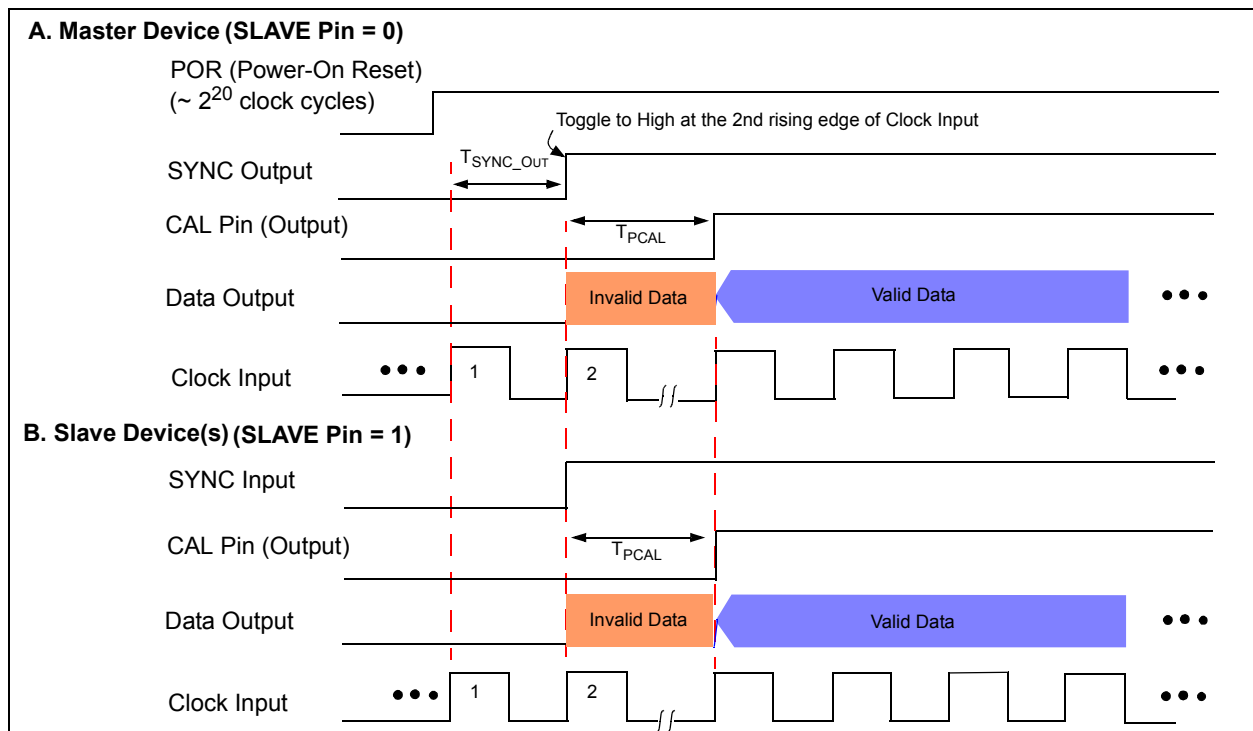
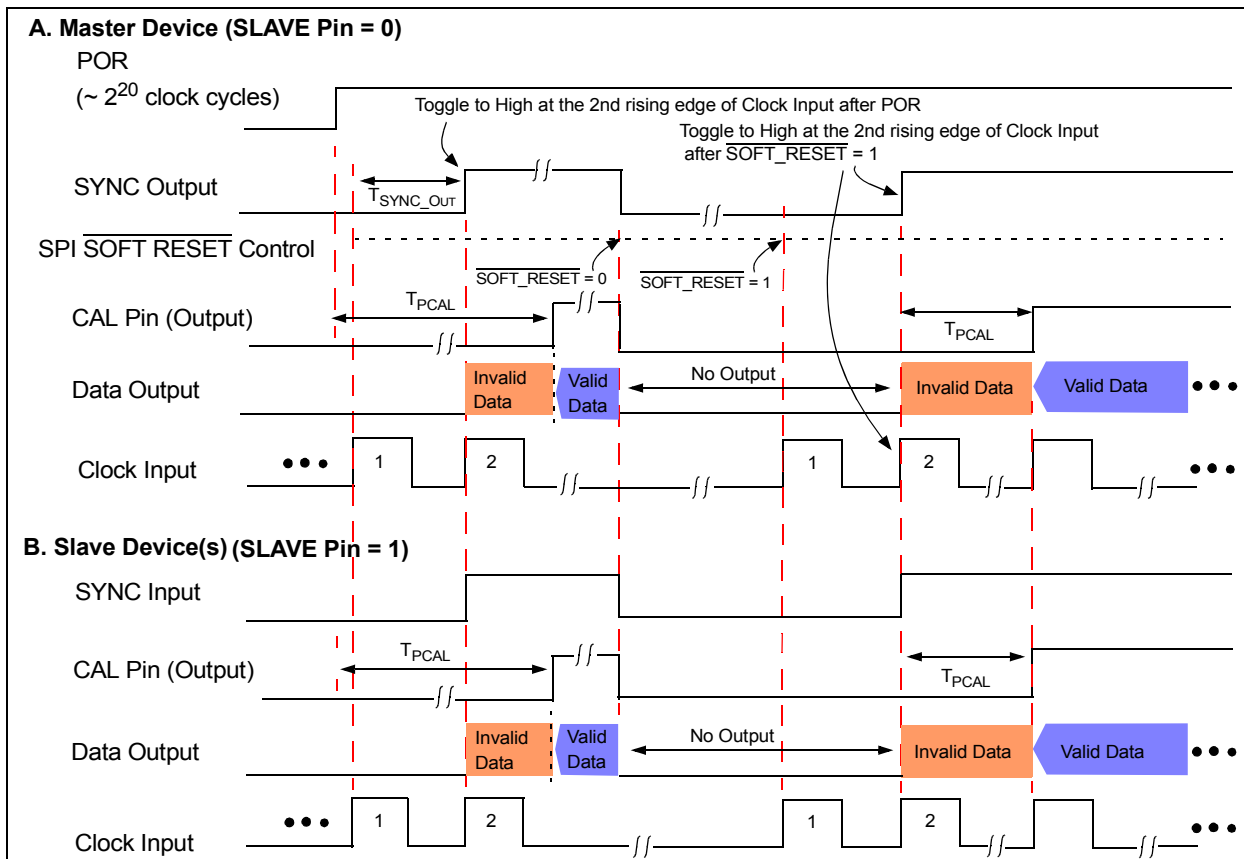

FIGURE 2-7: Figure 2-5 Sync Timing Diagram with Power-On Reset.
FIGURE 2-9: Sync Timing Diagram with $\overline{SOFT_RESET}$ Bit Setting.
- Note 6:** Characterized with a single slave device. The maximum ADC sample rate for AutoSync mode may be reduced if multiple slave devices are used. See Figure 2-7 - Figure 2-9, and Figure 4-28 for details.